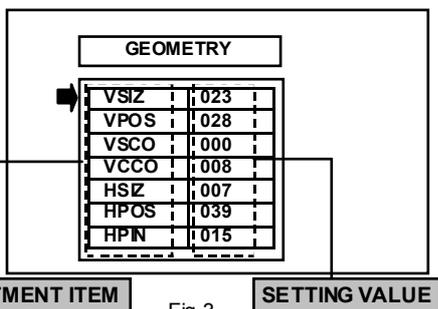

Fig.3
- 2) Press the GREEN key, geometry menu appears (Fig. 3).